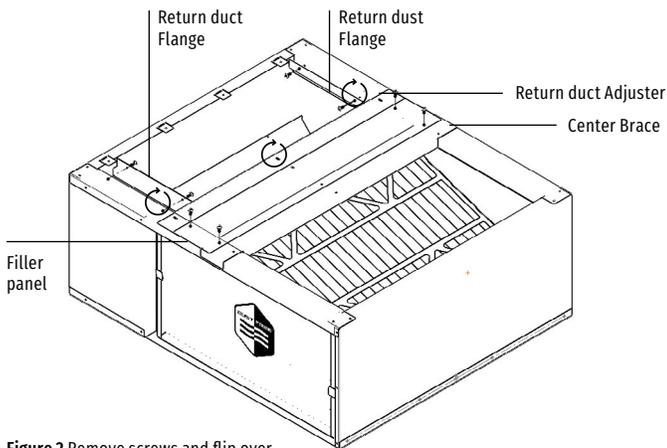

Figure 2 Remove screws and flip over
2. Remove the screws on the return duct adjuster and flip over so that the flange is upwards as shown in figure 2 and 3. Reference the opening in the bottom of the furnace or air handler and adjust the opening width in the equipment side of the media air cleaner cabinet to match. The center braces can be moved to different pre-established locations using the holes in the top of the cabinet. Depending on the desired locations, the filler panel may be used or discarded. Once in place, secure the center brace, fill panel, and return duct adjuster with the supplied #8 x 3/8" screws.